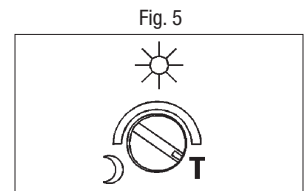

Fig. 5
4. Turn sensitivity light knob to desired location. Turn knob closer to "moon symbol" for light to turn on (with motion) at night or turn closer to "T" for light to start detecting motion at dusk (Fig. 5).